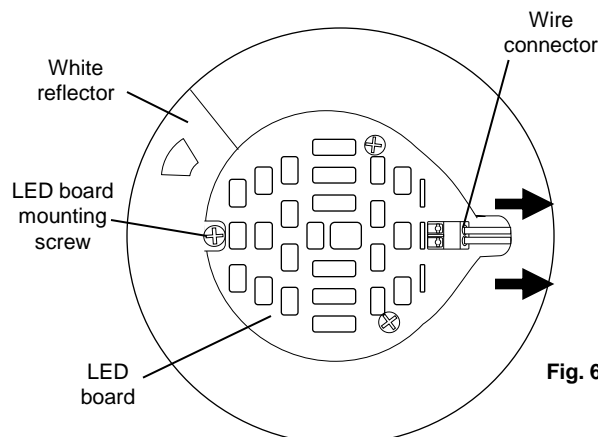

Fig. 6
4. Using a small flathead screwdriver, pry off the diffuser lens to access LED board. Detach wire connector from LED board. (Fig. 6)
6. Insert the output wires and wire connector of the new LED driver into the heat sink hole and push them into the LED compartment. Connect the wire connector to the LED board. (Fig. 6)
2. Using a small flathead screwdriver, pry off the diffuser lens to access LED board. Detach wire connector from LED board. (Fig. 6)
3. Remove the LED board mounting screws. Lift off LED board off heat sink surface. (Fig. 6)
5. Mount the new LED board onto the heat sink surface using the previously removed mounting screws. (Fig. 6)
6. Attach the wire connector onto the LED board. (Fig. 6)